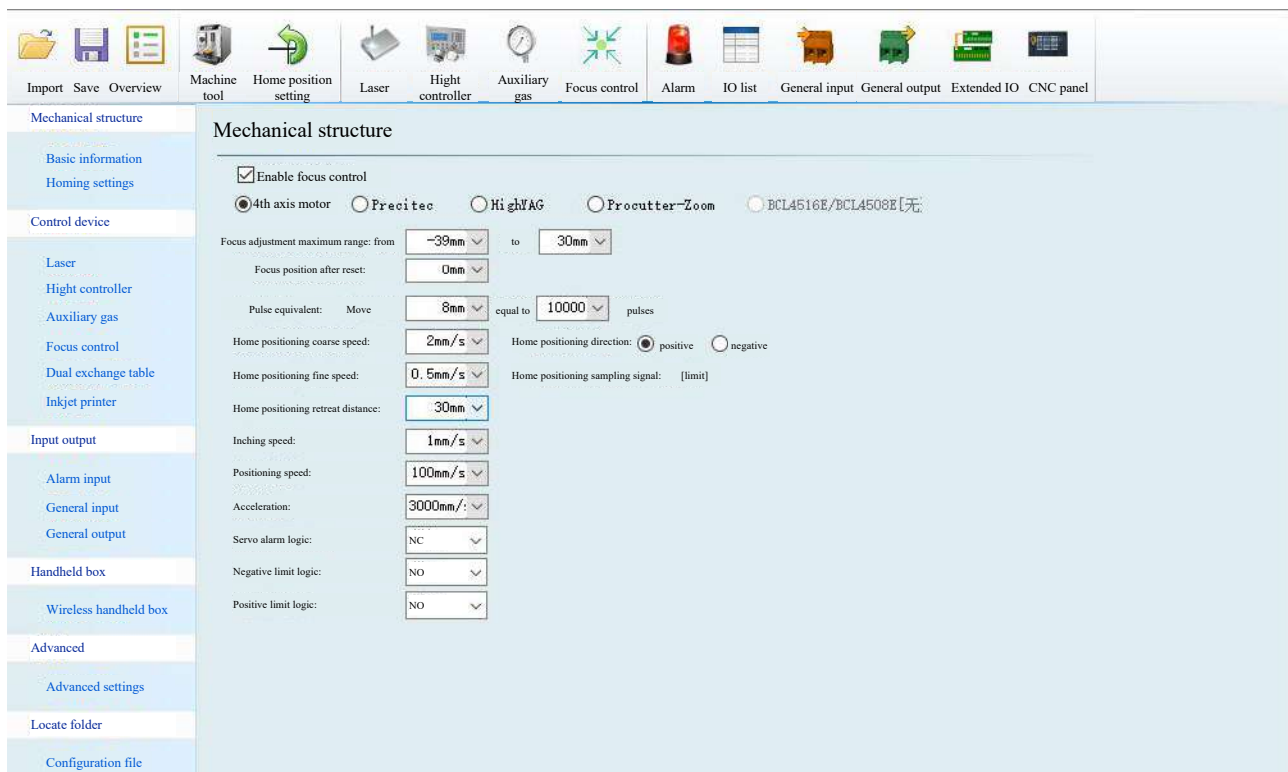

Figure 2.1
- ① Open the software configuration platform, set the focus retraction distance to 30mm (adjustable based on actual conditions) to position the collimation focus at the zero scale (using Cypcut as an example) as shown in Figure 2.1.